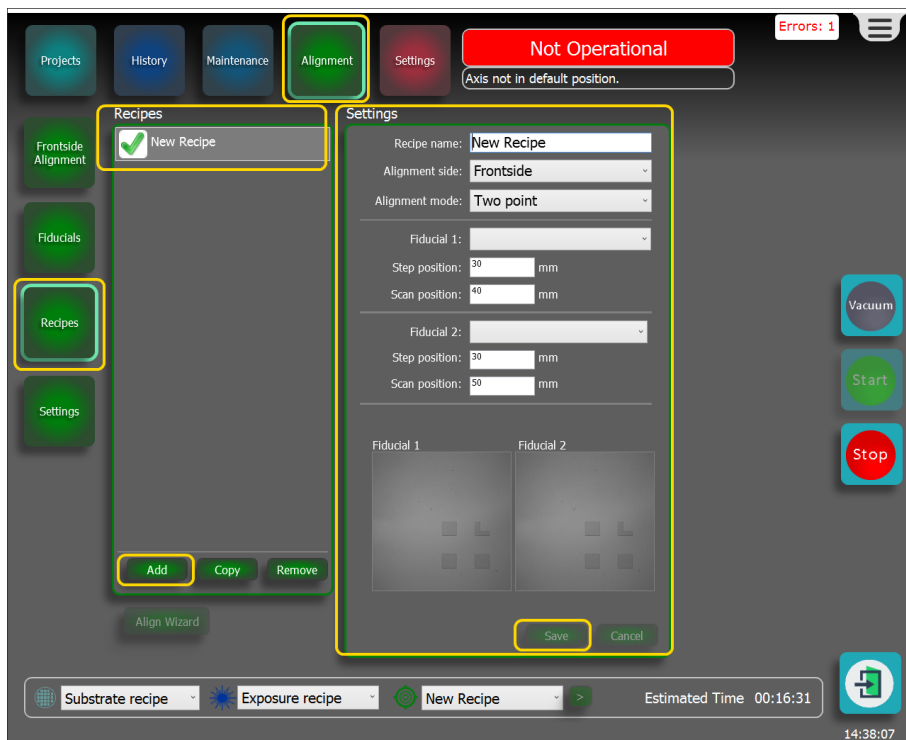

Figure 3-77 Making an alignment recipe
2. Select **Alignment**, see Figure 3-77.